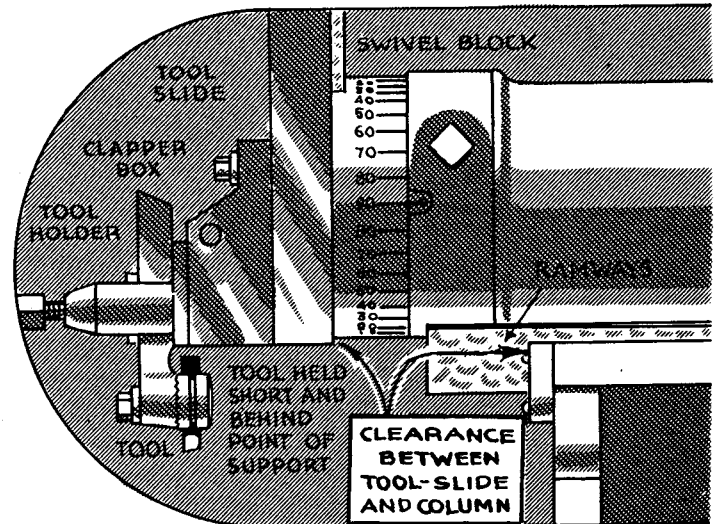

FIG. 385
2. Adjust the bottom of the tool slide until it is even with the bottom of the swivel block (Fig. 385).
3. Hold the tool in the tool holder so that the cutting edge of the tool will be held behind the point of support (Fig. 385).